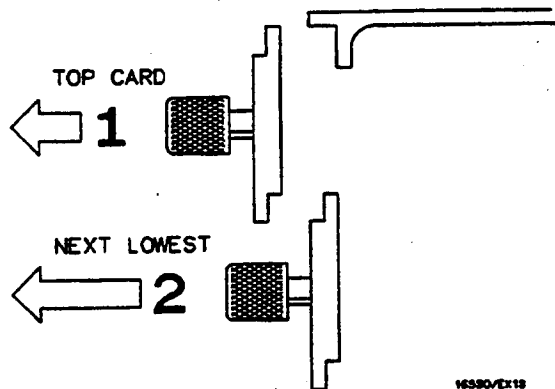

Figure 6-11. Endplate Overlap
- c. Starting from the top, begin pulling card(s) and filler panel(s) out half way. See figure 6-11.